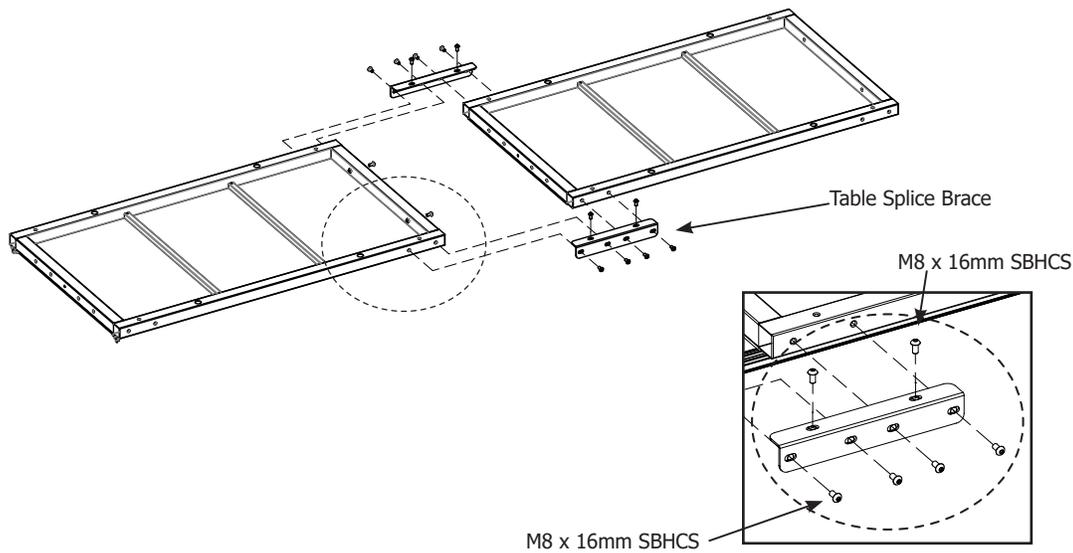

Fig. 2-1
- 2-1:** First, lay two table sections upside-down on the floor, end to end, close to each other. Join the sections together by placing a table splice brace onto the sections, as shown in Fig 2-1, lining up the holes in the brace with those in the sections. Make sure the flange portion of the brace is on top. Fig 2-1.
- 2-2:** Place four (4) M8 x 16mm SBHCS through the side and two (2) M8 x 16mm through the top of each splice brace and finger-tighten them into the table sections.
- 2-6:** Tighten fully the two (2) top screws on each table splice brace, using the 5mm Allen wrench. Now fully tighten the 4 screws on the side of each table splice brace with the 5mm Allen wrench. All 24 screws should now be tightened.